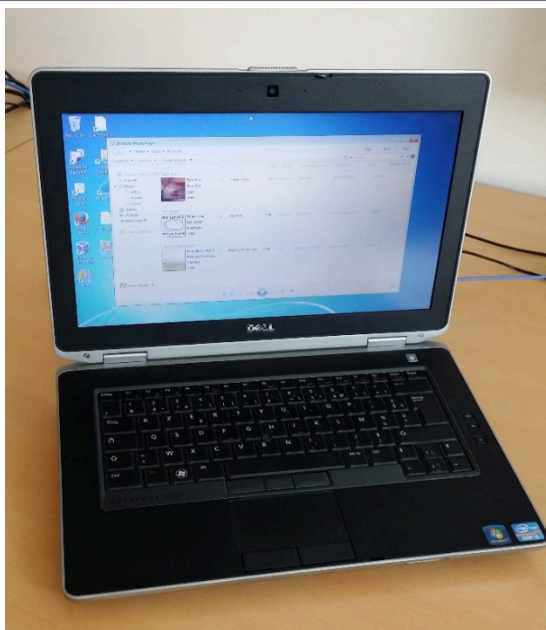

Figure 12. Laptop running Windows OS
5. Windows OS laptop (see Figure 12)